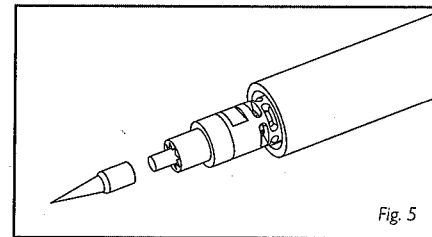

Fig. 5
- To start, screw the desired tip on the head of the handle. Fig 5.